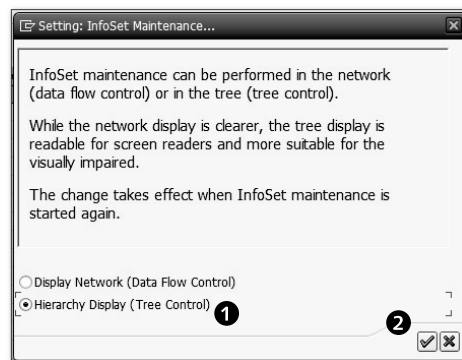

Figure 6.29 Changing the InfoSet Maintenance Screen Setting
So far we've seen the network display. You can change between the two settings by using the menu path **SETTINGS • DISPLAY**. The **SETTING: INFOSET MAINTENANCE** box appears, as shown in Figure 6.29. Select the **HIERARCHY DISPLAY (TREE CONTROL)** radio button ❶. Click on the **CONTINUE** icon ❷.